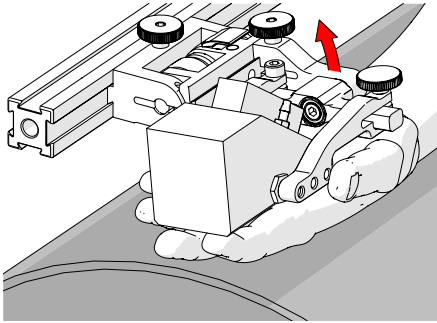

Fig. 51 - Lift to latched position
1. Ensure the probe holder is in latched, upper position (*Fig. 51*). If the probe holder is already latched, it will only move within the slip joint adjustment range and have no spring tension.
1. Ensure the probe holder is in the upright latched position (Fig. 51).